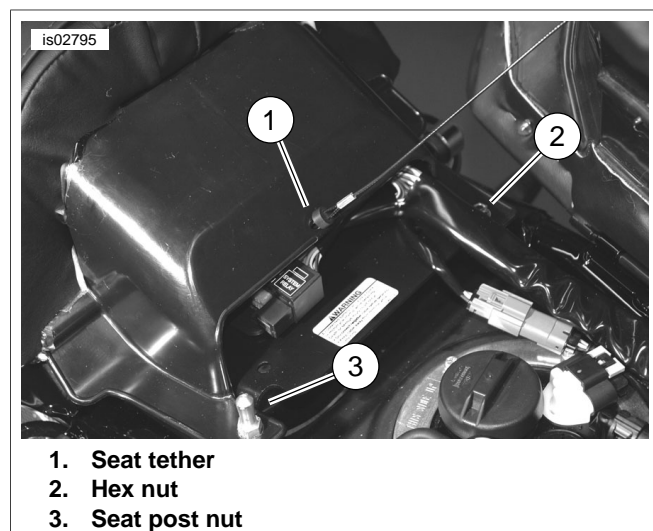

Figure 1. Remove Pillion
1. See Figure 1. Open rider's seat and remove tether (1) from pillion base.
2. Remove and save seat post nut (3) and hex nut (2) from the pillion base for reinstallation. Lift pillion tabs off frame studs and push the pillion forward to release bottom of the pillion from pillion post on fender. Lift the pillion away from the motorcycle and temporarily set aside.